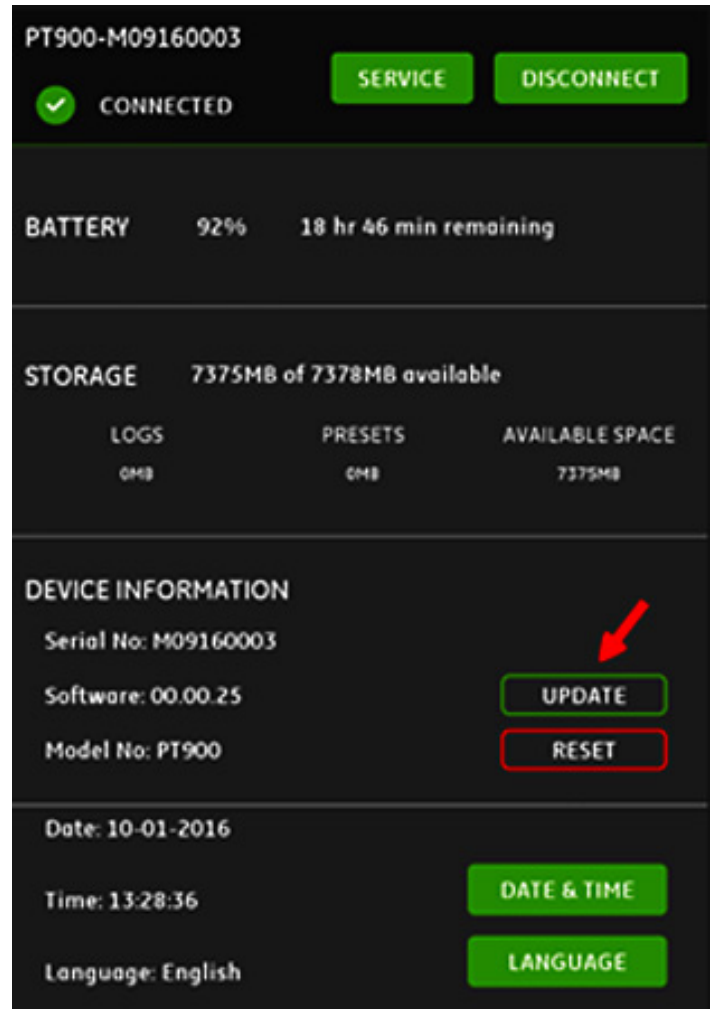

Figure 121: UPDATE button in TRANSMITTER menu
4. In the *app transmitter* menu, click the *update* button (see *Figure 121* below) to start the update.